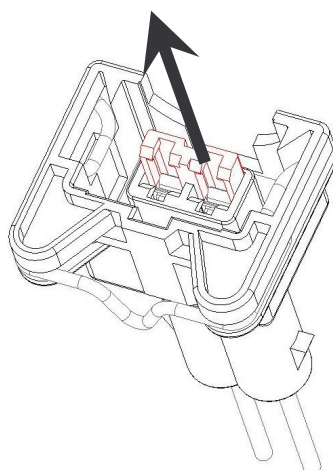

Figure 4
- 5.1 Remove completely the secondary lock in the direction shown by the arrows; see Figure 4 below.